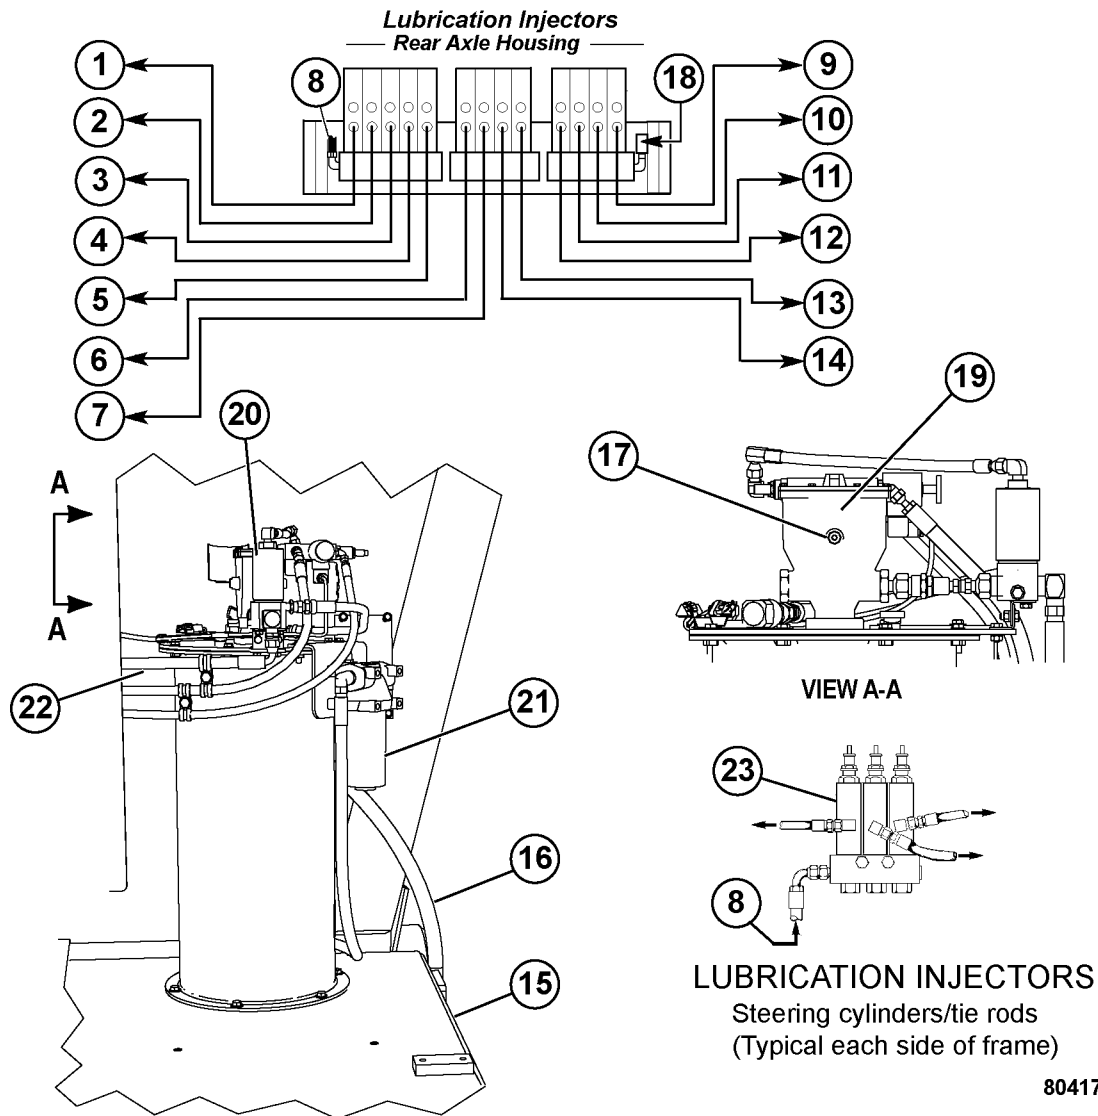

FIGURE 42-2. AUTOMATIC LUBRICATION SYSTEM INSTALLATION
Filter assembly (21, Figure 42-2), mounted on the grease reservoir, filters the grease prior to refilling the reservoir from the shop supply. A bypass indicator alerts service personnel when the filter requires replacement.
NOTE: The pump crankcase oil level must be maintained to the level of pipe plug (17, Figure 42-2). If equipped, use the dipstick on top of the pump housing to check the oil level. Add 10W-30 motor oil, if necessary.
Pressure switch (18, Figure 42-2) is a normally open switch set at 13 789 kPa (2,000 psi). This switch monitors grease pressure in the injector bank on the rear axle housing. If the appropriate grease pressure is not achieved during the normal pump cycle, the warning system will be activated. The repair light will illuminate and a message will be displayed on the dash panel to notify the operator that a problem exists in the lubrication system.
Each injector (23, Figure 42-2) delivers a controlled amount of pressurized lubricant to a designated lube point. Refer to Figure 42-2 for locations.
3. The hydraulic oil from the steering circuit is directed through the pressure reducing valve (4) and flow control valve (6) before entering the motor. Pump pressure can be read on optional pressure gauge (5) mounted on the manifold.
4. With oil flowing into the hydraulic motor, the grease pump will operate, pumping grease from the reservoir to injectors (13), through check valve (10) and to vent valve (11).
6. When grease pressure reaches the setting of pressure switch (18, Figure 42-2), the switch contacts will close and energize relay RB7-K8, disconnecting the ground path from the hydraulic motor/pump solenoid so the pump will stop. The relay will remain energized until the interface module completes its 120 second ON cycle.